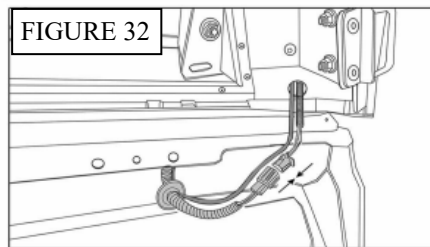

FIGURE 32
24. Next, route the white connector from behind the tail light and into the truck bed. Push the white connector through the rubber grommet on the wire coming from the rear right pillar of the truck cap (**Fig. 31**). Connect the provided harness to the white connector coming from the rear right pillar of the truck cap (**Fig. 32**).